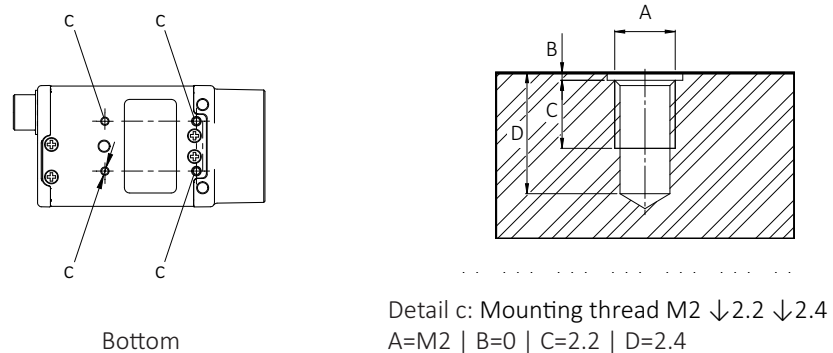

Figure 3: M2 bottom mounting threads (c)
1. Mount the camera to the base using suitable M2 screws at 0.22 Nm maximum torque for a thread engagement (C) of 2.2 mm between screws and mounting threads, see Figure 3.